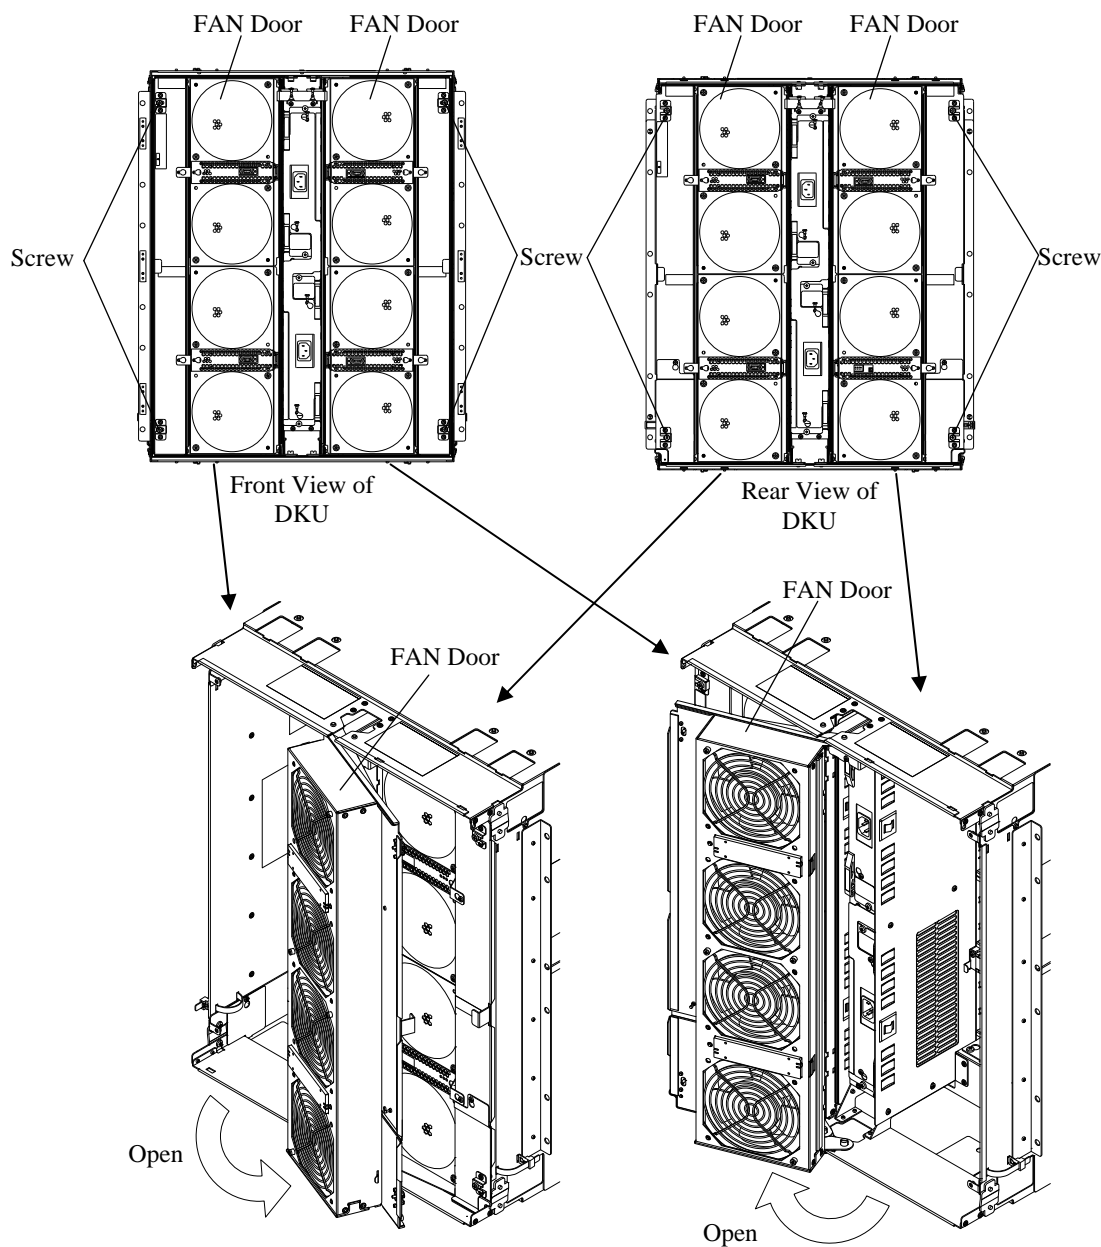

Fig. 1.3.3.2-1 FAN Door Opening
- c. Close the FAN door and tighten the screws. (Refer to Fig. 1.3.3.2-1.)